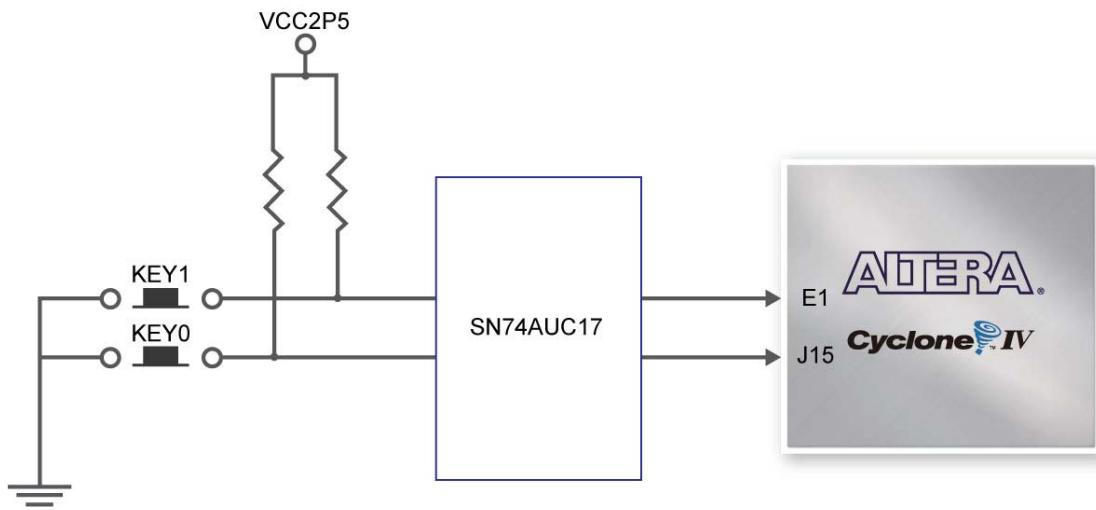

**Figure 3-2 JTAG Chain**
**Figure 3-2** illustrates the JTAG configuration setup.